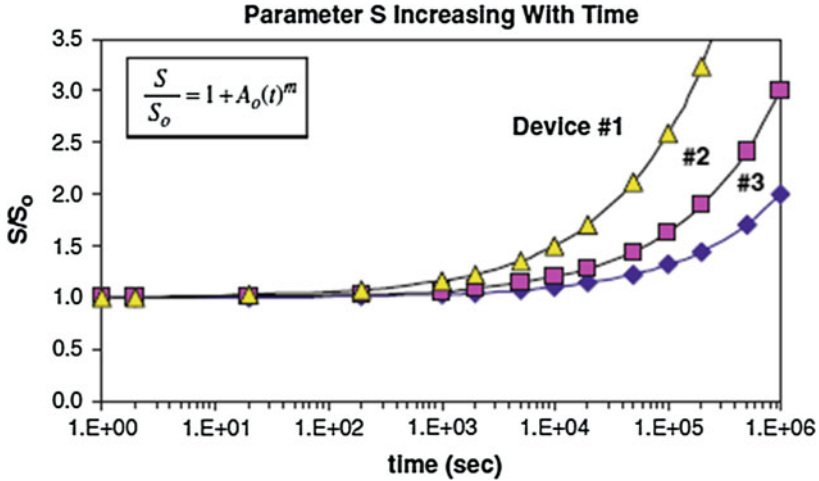
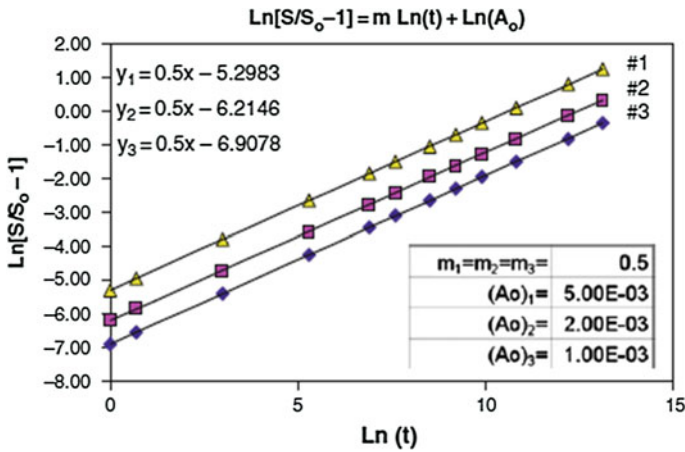

Fig. 3 Critical material/device parameter S is observed to degrade (increase) with time
Fig. 4 Ln–Ln plots reveal straight lines with equal slopes m for the three devices, but each device has a different prefactor A_0
where A_0 is again a material/device-dependent coefficient and m is the time-dependence exponent. Shown in Fig. 3 is the time dependence for the degradation of three devices due to the increase in magnitude of the critical parameter S .
Using Eq. (7), the logarithmic plots for the three devices, with increasing critical parameter S as shown in Fig. 3, are now re-plotted in Fig. 4. Note that the unknown parameters in Eq. (6) can be easily extracted from such plots.